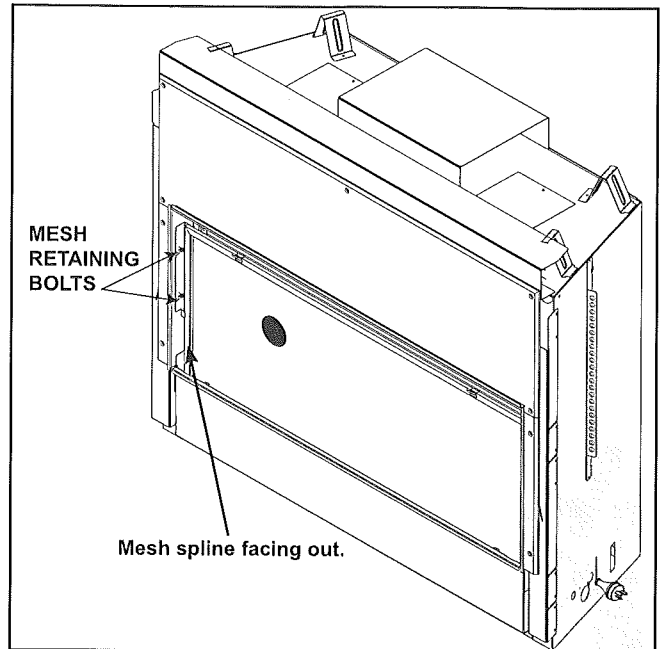
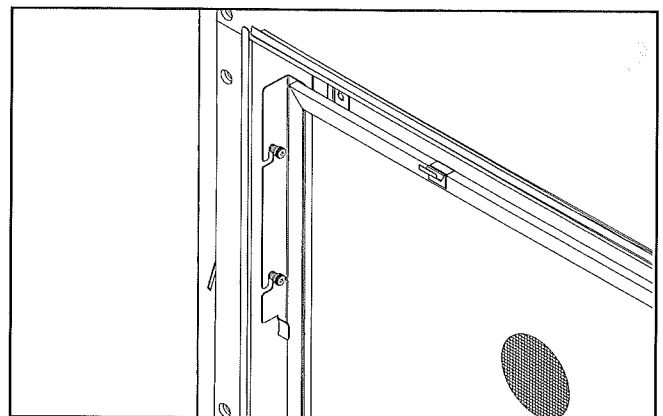

Figure 10. Mesh Installation
Figure 11. Do Not Tighten Screws
4. Place mesh into position with retaining bolts removed. See Figure 10.
5. Install 2 Phillips screws into the 2 riv nut holes on the left and right sides of the fireplace opening Fig 10. Do not tighten screws. See Figure 11.
6. Thread retaining bolts into mating threads to retain mesh as shown. See Figures 10 and 11.